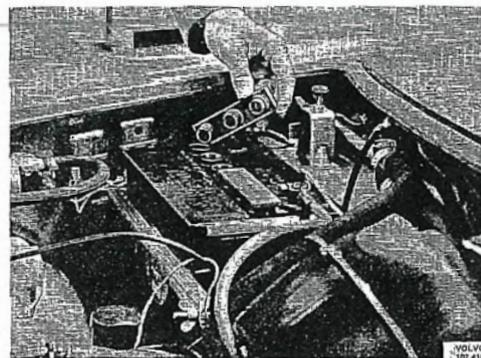

Fig. 1-19. Battery
1. Check that electrolyte level in battery is about 5 mm (3/16") above plates (Fig. 1-19). If necessary fill with distilled water. Also check that battery and battery terminals are secure.